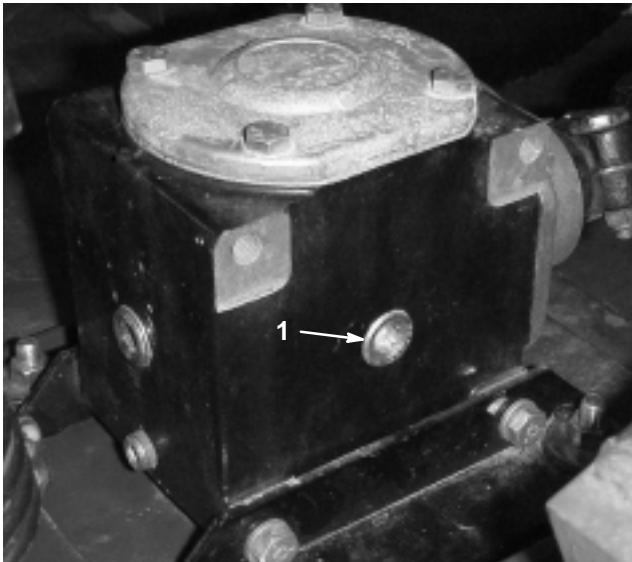

Figure 27
2. Position the machine and cutting unit on a level surface and lower the cutting unit. Remove the fill/check plug from the side of the gear box (Fig. 27) and make sure that the lubricant is up to the bottom of the hole. If the lubricant level is low, add SAE 80–90 wt. gear lube until the level is up to the bottom of the hole.